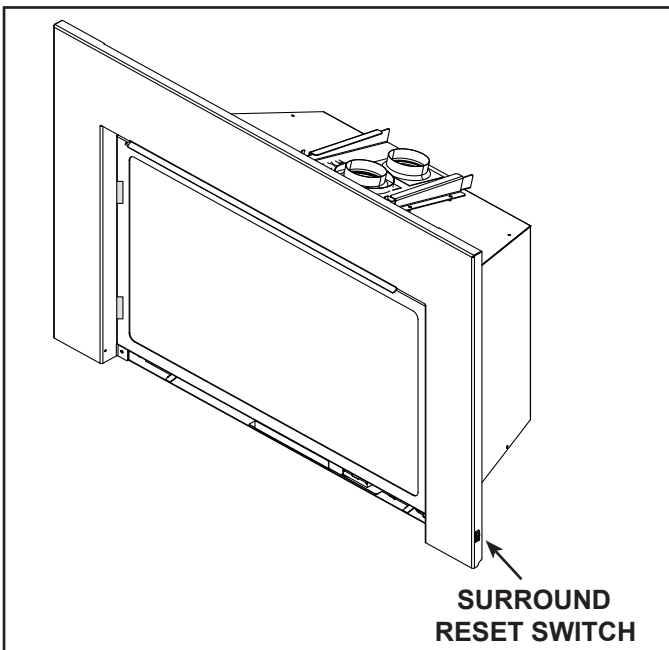

Figure 3.10 Surround Reset Switch
- Toggle the appliance reset switch to the off position. See Figure 3.10 for reset switch location.